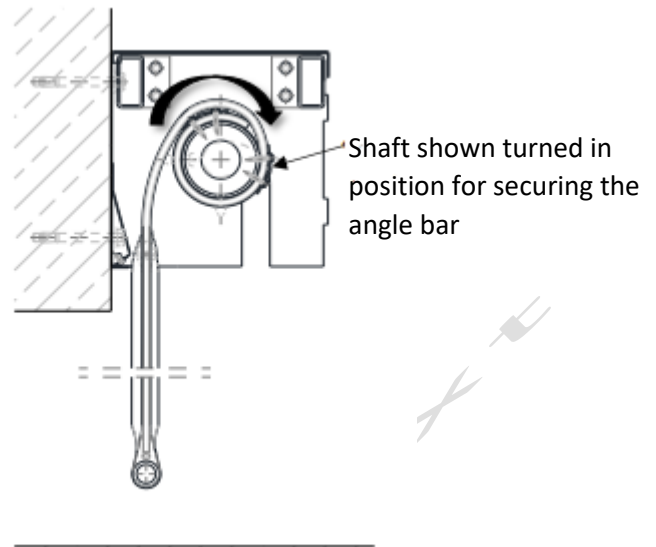

Fig. 10. Installation of the curtain descent mechanical stop (angle bar)
- When the screen is on the floor, mark the cloth just above the point where it leaves the axis, see also figure 10.